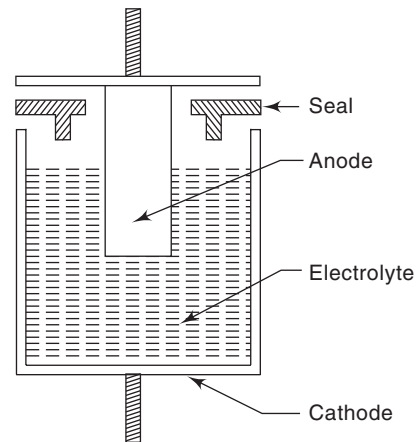

Fig. 2.14 Wet-anode type tantalum capacitor
- **Wet-anode type** As shown in Fig. 2.14, the wet-anode type capacitor is made by moulding a mixture of tantalum powder and binder into the shape of a pellet. Under high temperature and in a vacuum, the pellet mixture is welded together (sintered) and due to this sintering, the binder and impurities are driven off. The result is a porous pellet on which a layer of tantalum oxide is electrochemically formed. The volumetric efficiency of wet anode type is about three times that of the foil type.